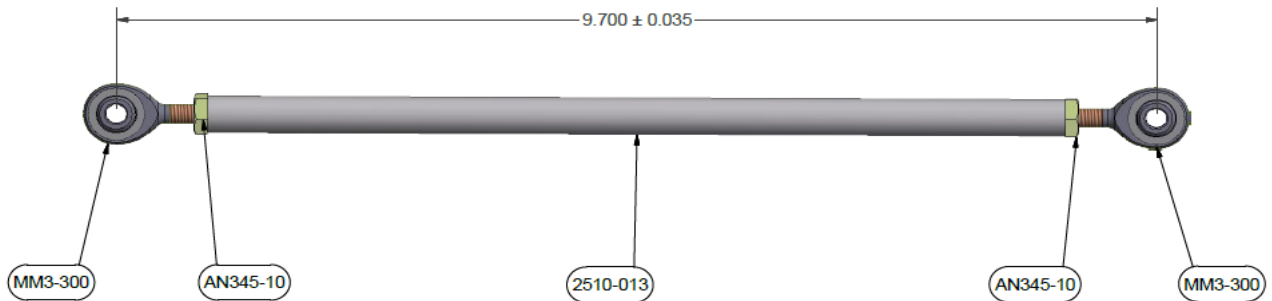

Figure 2-26
1.40. Assemble the roll pushrod assembly as shown in Figure 2-26. Apply blue threadlocker (Loctite 242 or equivalent) to rod ends and torque AN345-10 nuts to 20-25 in-lb. Maintain alignment of the MM-3-300 rod end bearings after tightening.